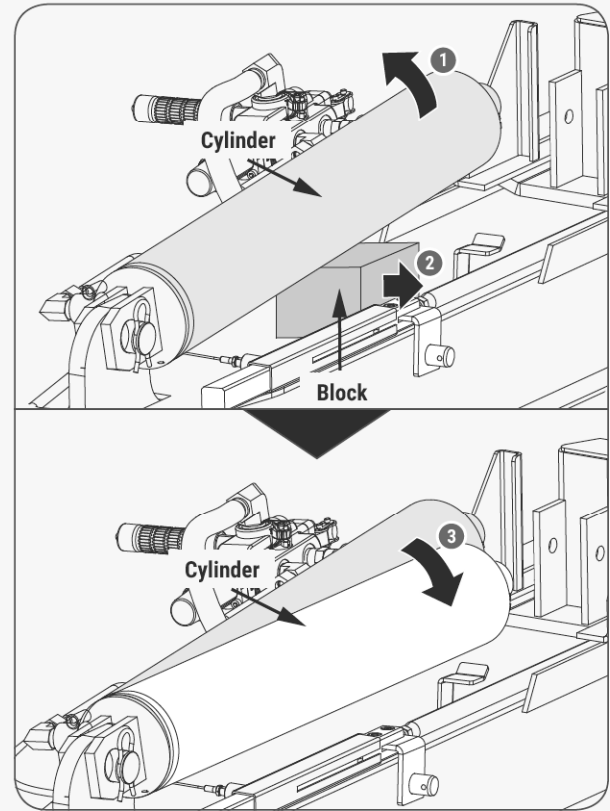

Figure 18a
1. Remove the wooden block under the cylinder. (See **Figure 18a.**)